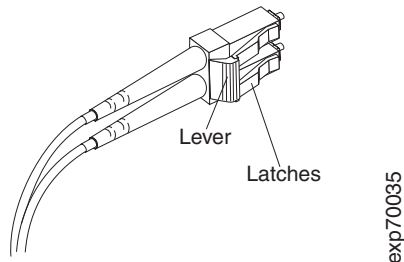

Figure 28. LC-LC fibre channel cable lever and latches
1. On the end of the LC-LC cable that connects into the SFP module or host bus adapter, press down and hold the lever to release the latches, as shown in Figure 28.